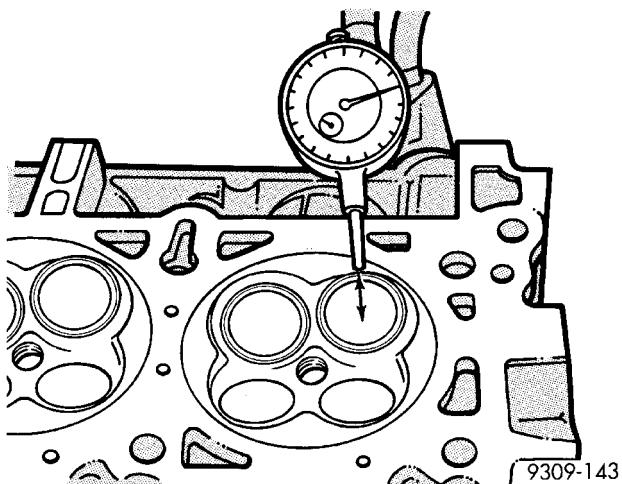

Fig. 33 Measuring Valve Guide Wear - Typical
(1) Remove carbon and varnish deposits from inside of valve guides with a reliable guide cleaner.
(2) Measure valve stem-to-guide clearance as follows:
(3) Install valve into cylinder head so it is 15 mm (0.590 inch.) off the valve seat. A small piece of hose may be used to hold valve in place.
(4) Attach dial indicator Tool C-3339 to cylinder head and set it at right angle of valve stem being measured (Fig. 33).
(5) Move valve to and from the indicator. For clearance specifications, (Refer to 9 - ENGINE - SPECIFICATIONS).